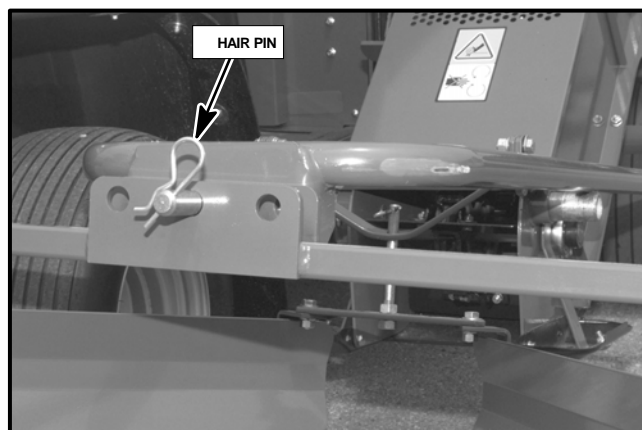

Figure 42
8. Secure the tie rod to the support bracket using one (1) hair pin (Part No. 822529) (See Fig. 42).